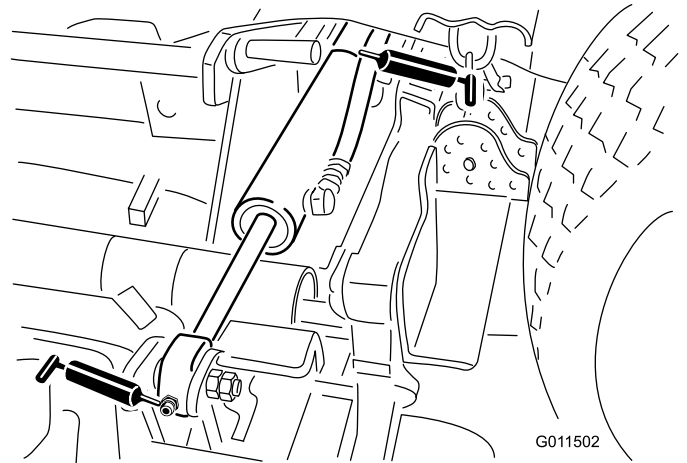

Figure 43
- 4 wing-deck-lift cylinder (Figure 43)